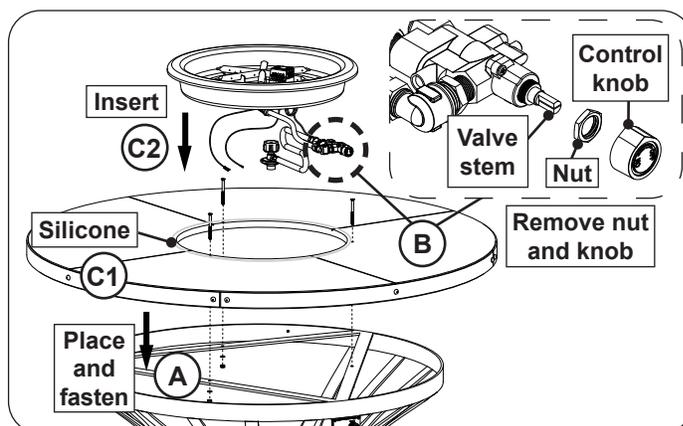

Fig. 36-2 Place top and fasten, place burner
4. **Carefully** place the top on the unit, ensuring that the holes in the top piece align with the holes found in the bracket below (see Fig. 36-2, A).
5. Use a flathead screwdriver and the supplied bolts (3), nuts (3), and washers (3) to fasten the top to the bracket as shown in Fig. 36-2, A.
6. Locate the valve and burner assembly. Remove the control knob. Use a 20mm socket to remove the nut attached to the valve stem. See Fig. 36-2, B.
Then apply silicone along the top, and then drop the valve and burner assembly into the opening in the center of the firetable top as shown in Fig. 36-2, C1 and C2.